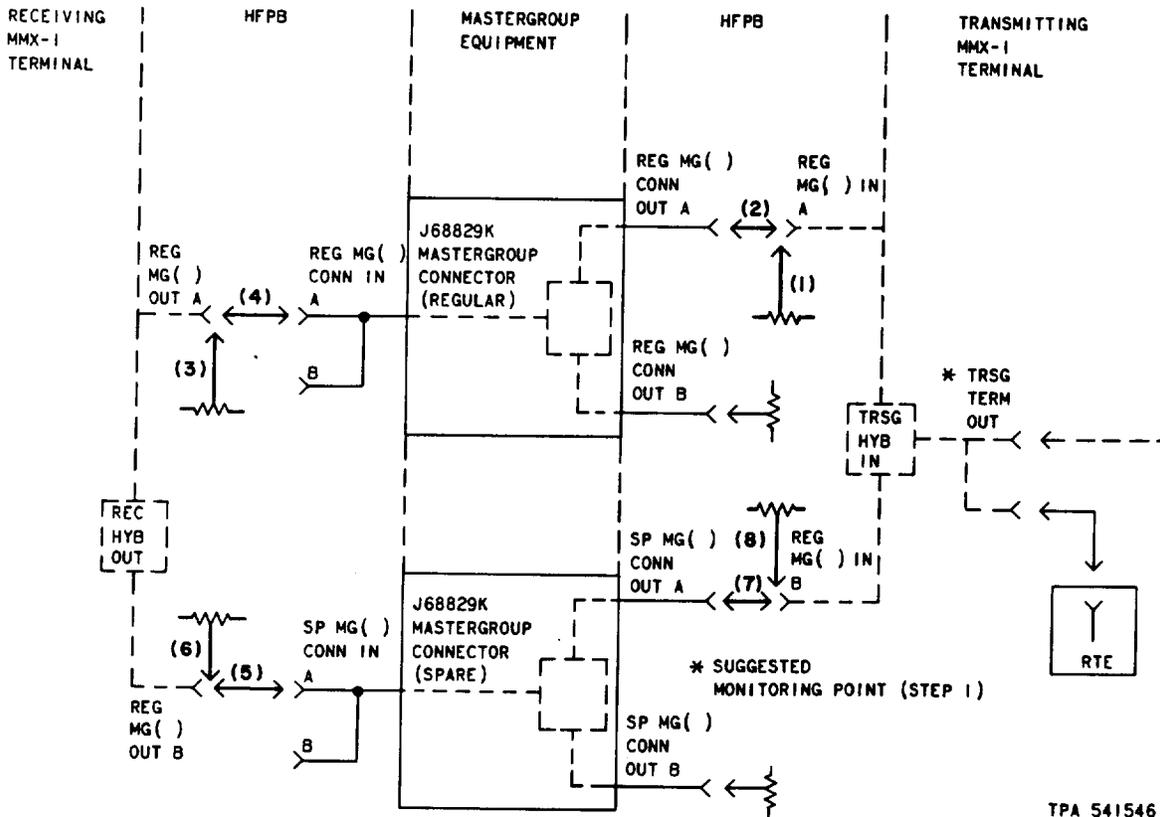

Fig. 2—Restoring Regular Equipment to Service—Patching Procedure
12	At the transmitting and receiving high-frequency patch bays, locate the jacks associated with the regular and spare equipment to be patched. At the transmitting MG-HFPB, (a) Remove the 358B plug (75-ohm termination) from the REG MG() IN A jack [patch (1), Fig. 2]. (b) Insert a 372A plug (through connection) into the REG MG() IN A and REG MG() CONN OUT A jacks [patch (2), Fig. 2].
13	At the receiving MG-HFPB, (a) Remove the 358B plug from the REG MG() OUT A jack [patch (3), Fig. 2]. (b) Insert a 372A plug into the REG MG() OUT A and REG MG() CONN IN A jacks [patch (4), Fig. 2].
15	At the receiving MG-HFPB, (a) Remove the 372A plug from the REG MG() OUT B and the SP MG() CONN IN A jacks [patch (5), Fig. 2]. (b) Insert a 358B plug into the REG MG() OUT B jack [patch (6), Fig. 2].
16	At the transmitting MG-HFPB, (a) Remove the 372A plug from the REG MG() IN B and SP MG() CONN OUT A jacks [patch (7), Fig. 2]. (b) Insert a 358B plug into the REG MG() IN B jack [patch (8), Fig. 2].